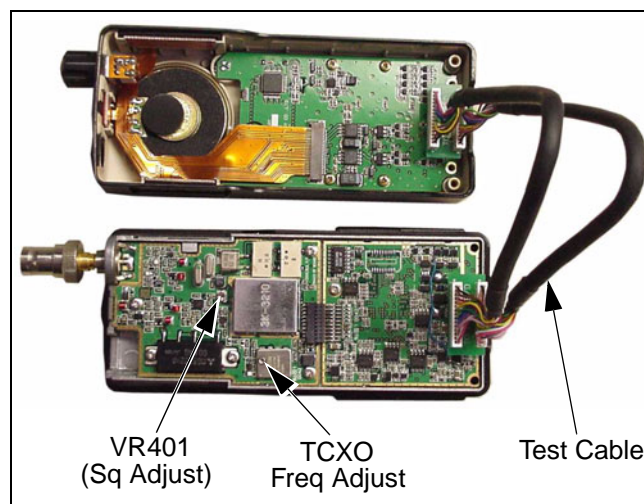

Figure 5-3 Internal Adjustment Points
4. If readjustment is required, the transceiver must be opened to access the manual adjustment point as described in Section 5.13. Adjust capacitor in TCXO U201 for the correct frequency (see Figure 5-3).
5. Set the signal generator for the output signal displayed on the screen and slowly adjust squelch potentiometer VR401 (see Figure 5-3) until the receiver just squelches (audio mutes).